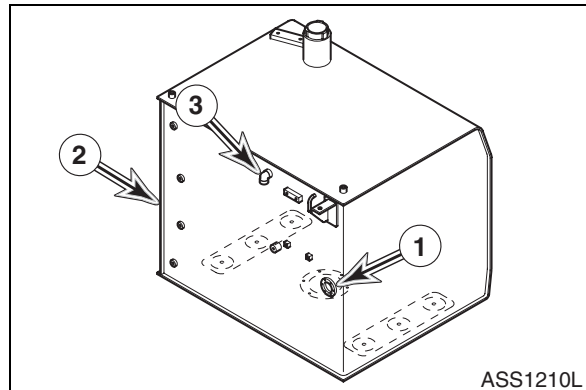

Figure 8
- Tag and disconnect wires leading to fuel sensor (1, Figure 8) on side of fuel tank (2).
- If equipped, remove components from fuel filler pump port (3, Figure 8) on side of fuel tank (2).